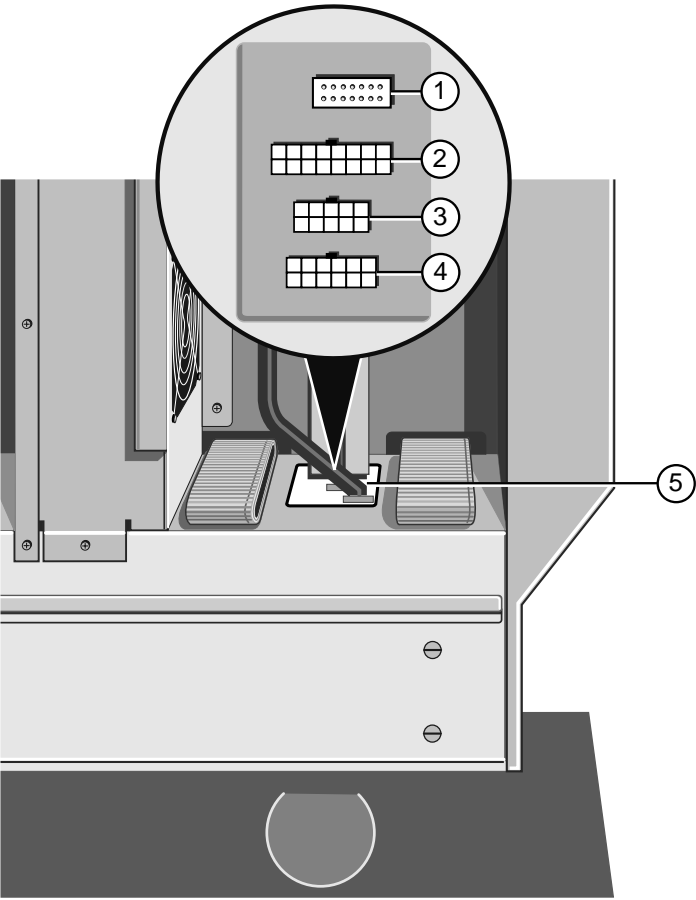

Figure 10-4 Disconnecting Power Supply Cables
6. Plug the cables into their connectors on the power supply as shown in *Figure 10-4*.